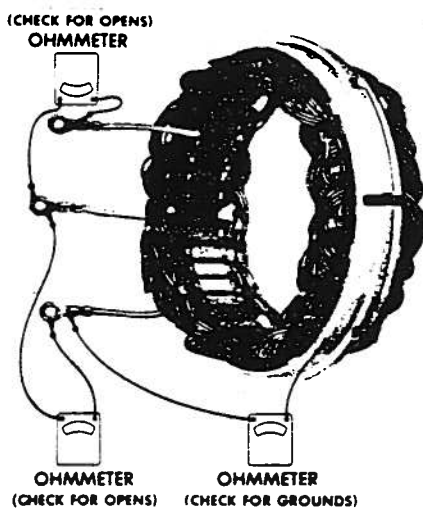

Figure 7-4. Stator Check
1. Connect ohmmeter from any stator lead to frame (figure 7-4).